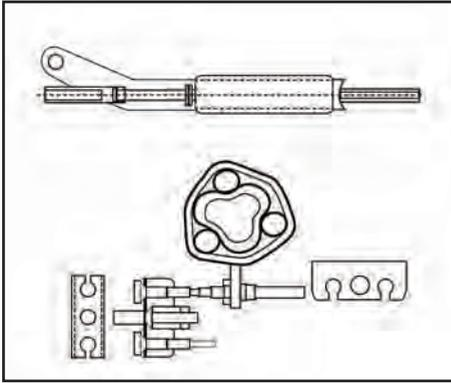

FIG 9.
1. Ensure the balance bar (compensation) is being pulled evenly. This bar (double on tandem axles) should always be paralleled with the axle tube when pulled. Adjust M8 lock and ball nuts, if necessary, to achieve correct parallel position (Fig. 9)
4. Adjust the two locking nuts, forward of the spring cylinder (Fig. 9) (on some chassis a single Nyloc nut is used) to give 1mm of clearance on the spring cylinder. This cylinder (the energy store for the handbrake operation) must be able to rotate only, not slide on the brake rod. (See Fig. 9) If the overrun assembly is fitted with a gas strut handbrake then no spring cylinder is fitted, ignore this paragraph.